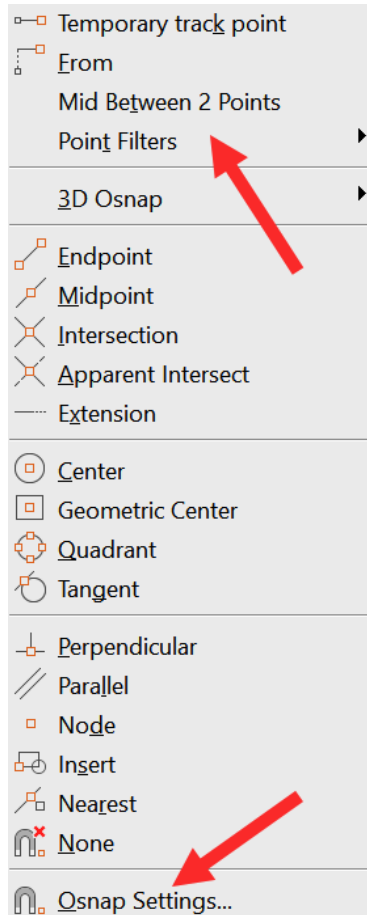

Figure 5.20: The Osnap Overrides menu displayed when using Shift and right-click
**Osnap Overrides** allows you to use Osnaps that aren't currently set in the Osnaps drafting setting. You can always gain access to **Osnap Overrides** without a command running. You can do this by holding down the *Shift* key and right-clicking. This will bring up the **Osnap Overrides** menu at any time. Note that it's more useful if this is performed in a command workflow as you then have access to **Snap Overrides** within the command you're working in. *Figure 5.20* shows the **Osnap Overrides** menu when accessed with the *Shift* and right-click method:
Note that in *Figure 5.20*, you can still gain access to the **Drafting Settings** dialog box by clicking on **Osnap Settings...** (arrowed). This will open the dialog box with the **Object Snap** tab currently displayed, in the same way as when using the **Object Snaps** flyout menu on the status bar.
We're going to look at one of the alternative Osnaps, called **Mid Between 2 Points** (*M2P*). This snap function is highlighted with an arrow in *Figure 5.20*.